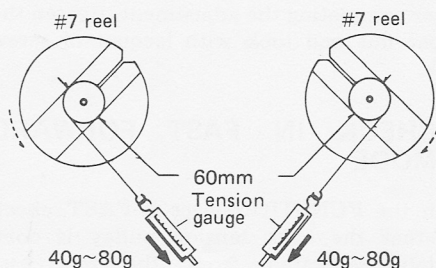

Fig. 7
3. Attach the tension gauges to the ends of the thread. The tension gauge should read 40~80g when pulled at the speed of 1-7/8 ips (4.75 cm/s) or less (Fig. 7).